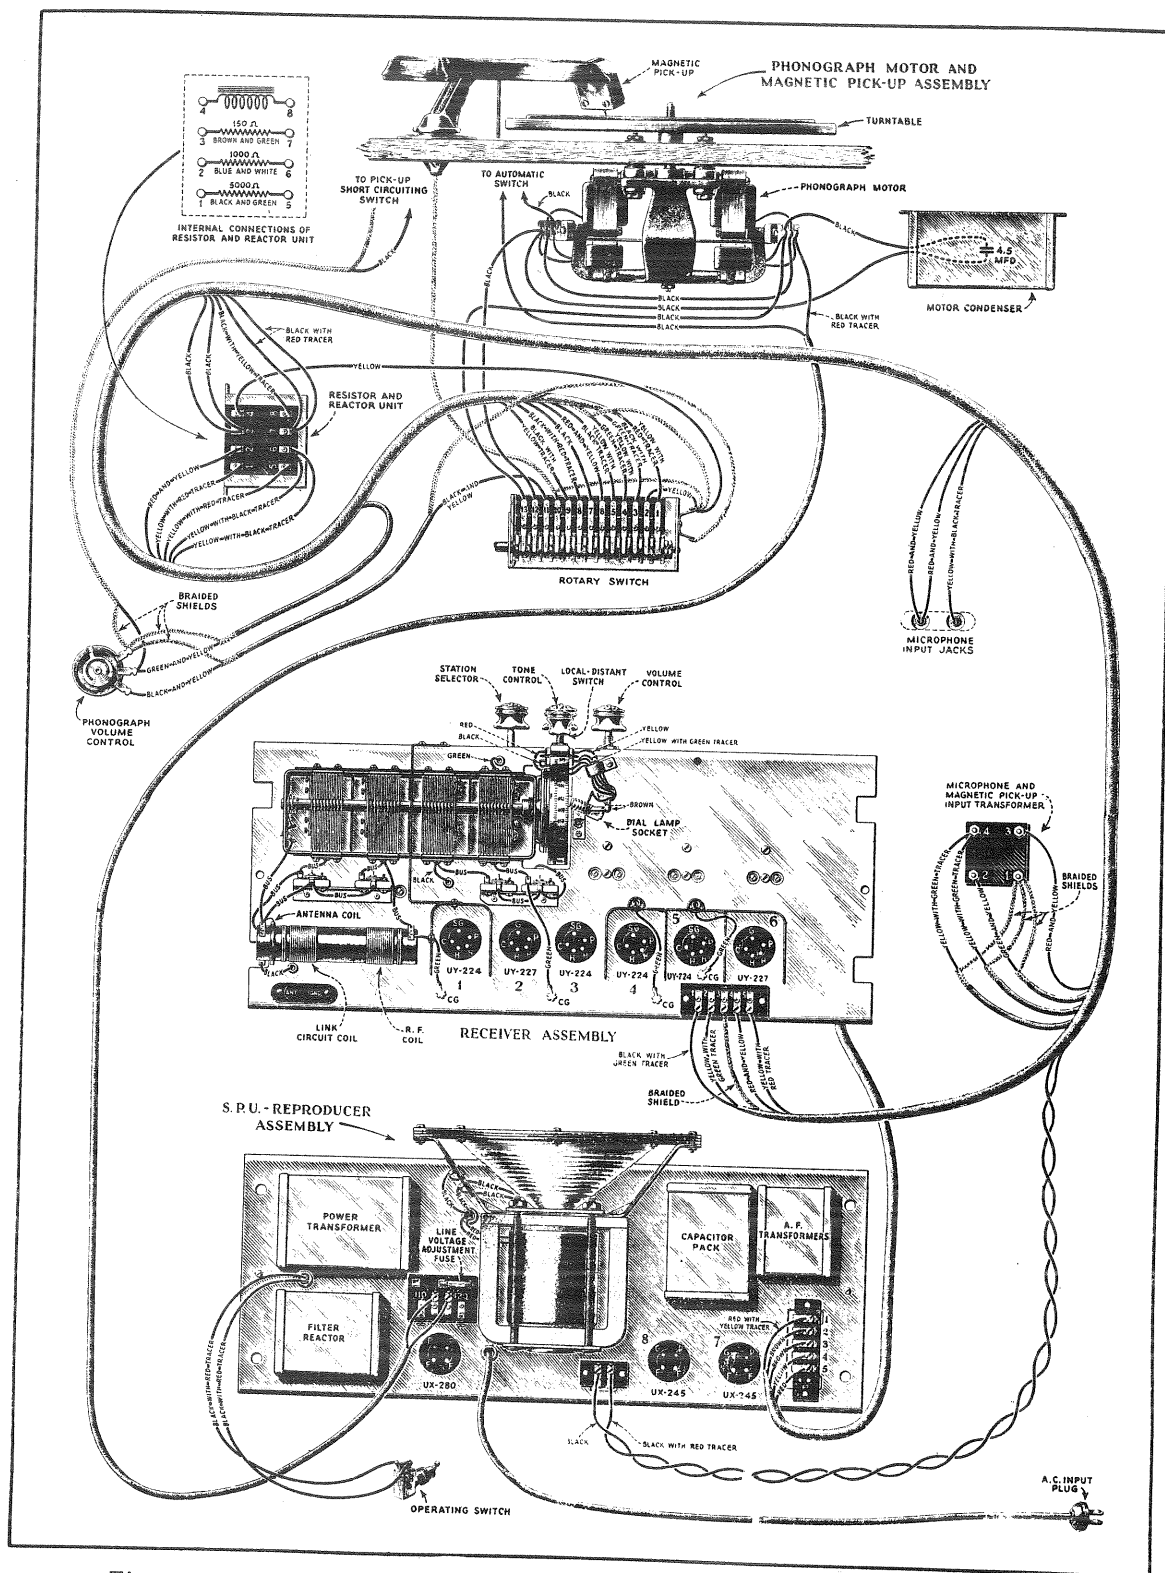

Figure 10—Assembly wiring diagram of the radio-phonograph combination instrument
Due to the absence of a motor terminal board it is best to disconnect the motor and test for continuity of circuit directly at the motor coils. This may be done by any of the methods used for regular continuity tests. Associated circuits should be checked by referring to the diagram, Figure 10.
- (e) Replace the black power leads under the lugs and reconnect the power leads to the proper points on the terminal board as shown in Figure 10. Lubricate motor if necessary.
(10) REPLACING THE MOTOR GOVERNOR PARTS
- (k) Reconnect, following the wiring diagram, Figure 10, and test operation and speed (Refer to Part VI, Section 2).
(12) REPLACING THE MOTOR SPINDLE BALL BEARING